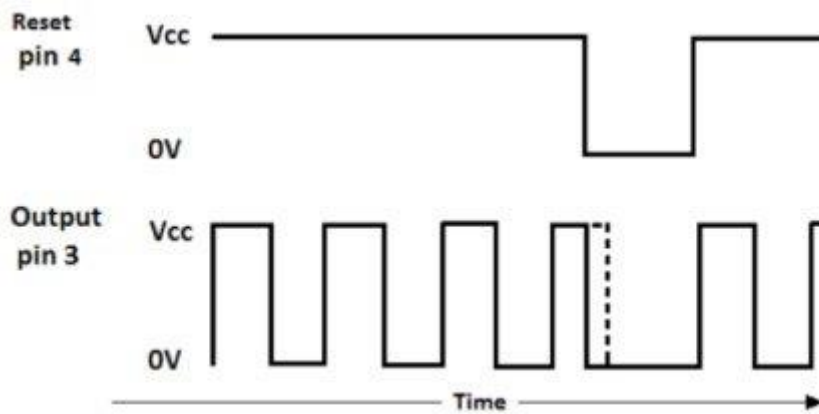

Figure 8: 555 timer in Astable mode.
The timing diagram in figure 8 shows the 555 timer output in astable mode.
As shown in figure 8, grounding the Reset pin (4) stops the oscillator and sets the output to low. Returning the Reset pin to high restarts the oscillator.